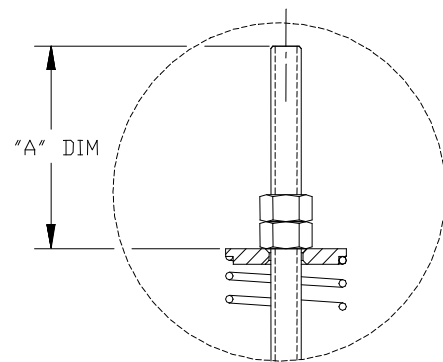
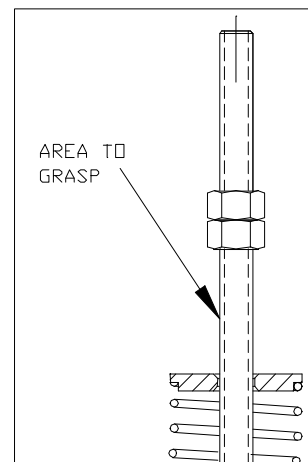

Figure 14 : Vacuum Spring Compression
Figure 15: Loosening Nuts for Spring
6. Record "A" dimension (Figure 14). Place a short length of pipe (minimum 6" high) beneath the vacuum pallet [23] to prevent it from falling. Back the top nut [15] completely off the stem. Compress the spring using the spring button [16] and grasp the stem (Figure 15). **Caution: Remove the**